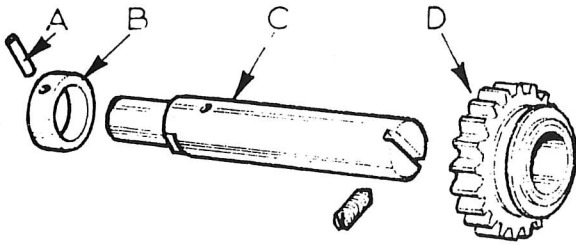

Fig. 19. REVERSE IDLER SHAFT ASSEMBLY
- Push out roll pin (A, Fig.19) securing the collar (B, Fig.19) to the Reverse idler shaft (C, Fig.19). Release locating screw for Reverse idler shaft, this being the socket-headed screw at left hand rear of casing.
7. Push the Reverse idler gear (D, Fig.19) clear of the laygear, then using puller (18G284) and adaptor (18G284AE) screwed on